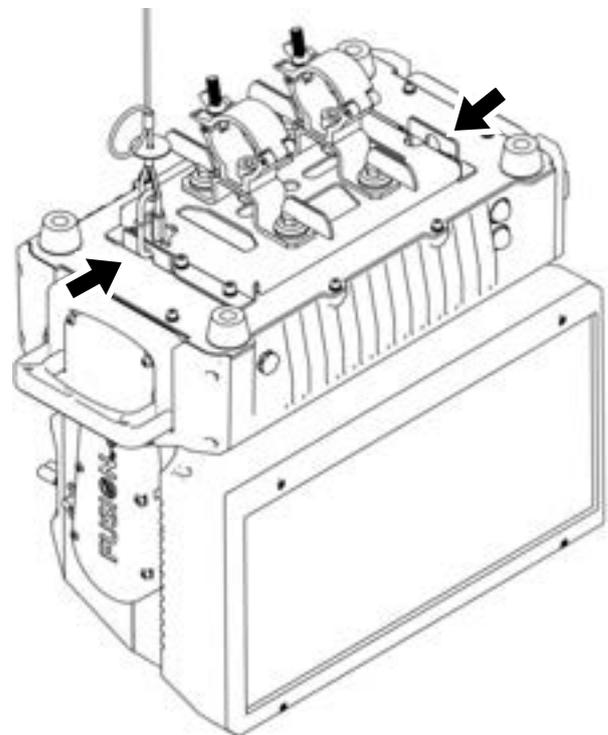

Figure 4. Safety cable attachment
3. See Figure 4 on the previous page. Fasten the safety cable to one of the arrowed attachment points on the base of the unit.